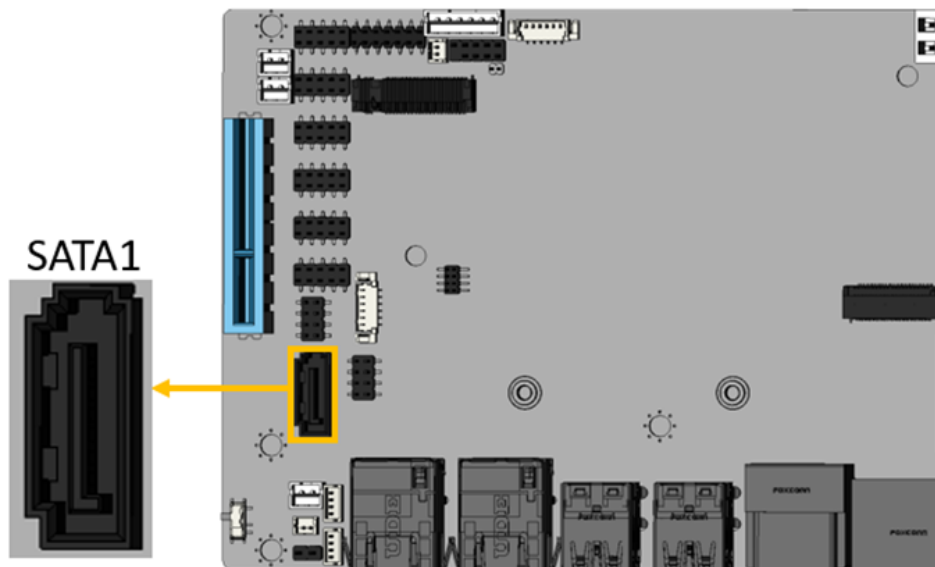

Figure 3-17: SATA 6Gb/s Connector Location
- CN Location:** See **Figure 3-17**